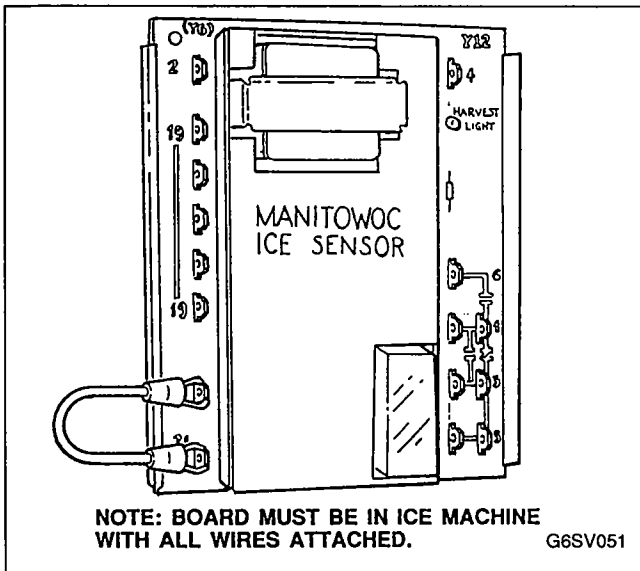

FIGURE 58. UNITIZED SENSOR BOARD
Step 3: Disconnect wires from terminals 20 and 21 on board. Connect jumper wire to terminals 20 and 21, Figure 58.